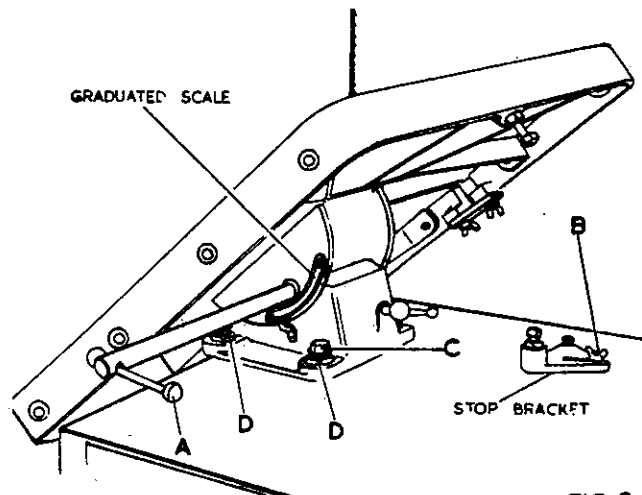

FIG.9
1. Loosen table locking lever 'A' in Fig. 9.
1. Loosen wingnut 'B' in Fig. 9 and swing the stop bracket clear of the stop screw in the table.
If adjustment is necessary, loosen the four bolts 'C' in Fig. 9 and adjust the two fine thread adjusters 'D' until table is correctly set. When set, tighten all screws.